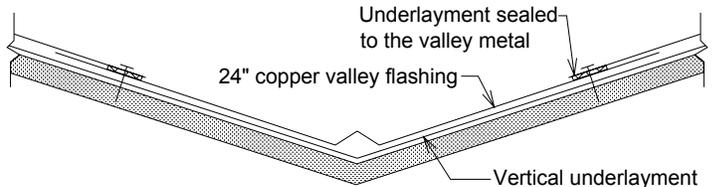

FIGURE 6. OPEN VALLEY FLASHING
3. Line all valleys using 24" girth, 16 oz. copper with a center rib. (Figure 4o) Fasten with 1" R/S nails 24" O.C. over a 36" full width vertical underlayment strip. (Figure 6) Lap joints 6" for slopes below 4:12 and 4" for slopes 4:12 & above. Do not solder. Closed valleys may be used for slopes 12:12 and above. (Figure 4n and 7)